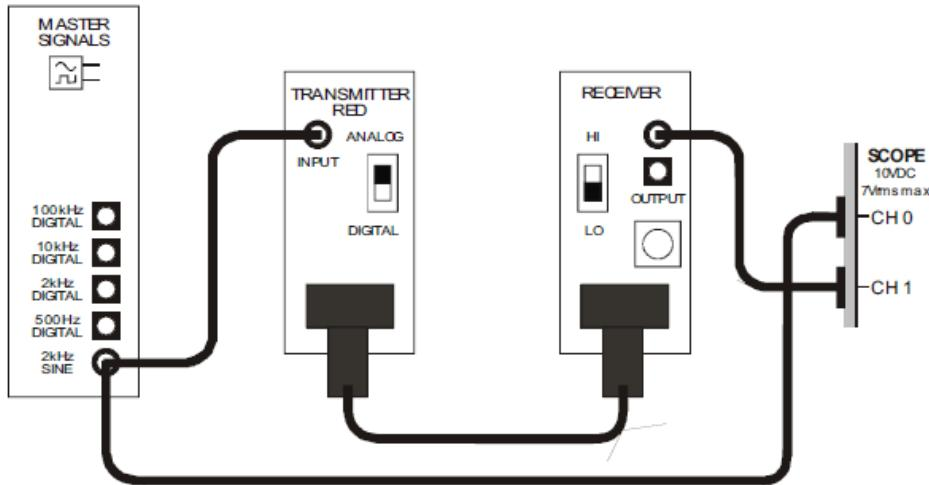

Figure 1
11. Connect the set-up shown in Figure 1 below using the Transmitter and Receiver modules adjusted for Steps 8 to 10.